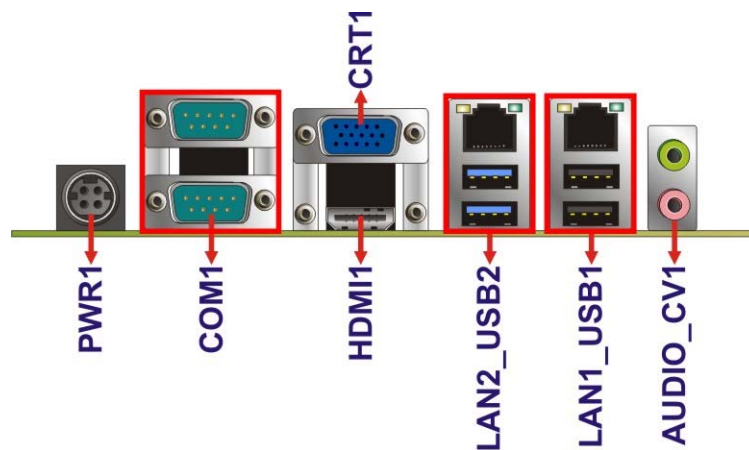

Figure 3-23: External Interface Connectors
Figure 3-23 shows the KINO-CV-D25501/N26001 motherboard external interface connectors. The KINO-CV-D25501/N26001 on-board external interface connectors are shown in **Figure 3-23**.
CN Location: See **Figure 3-23**
- CN Location:** See **Figure 3-23**
See Figure 3-23